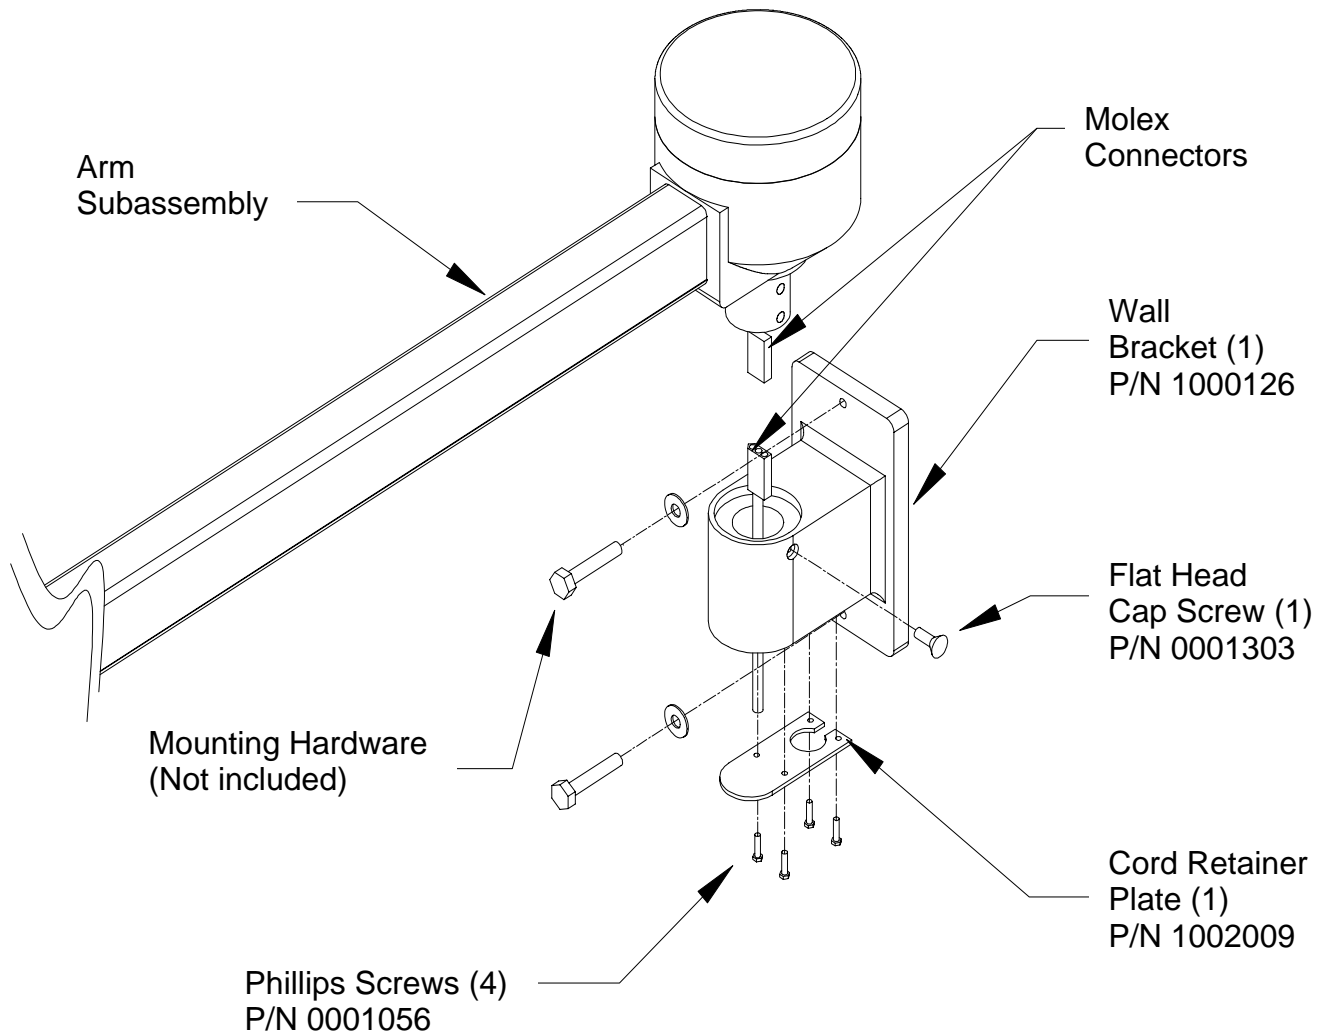

FIGURE 11: Wall Mount Installation
- Attach the wall bracket to the desired location using two  $\frac{5}{16}$ " Diameter x 2  $\frac{1}{2}$ " long (minimum length) lag screws or bolts with washers (Hardware not provided). See figure 11.